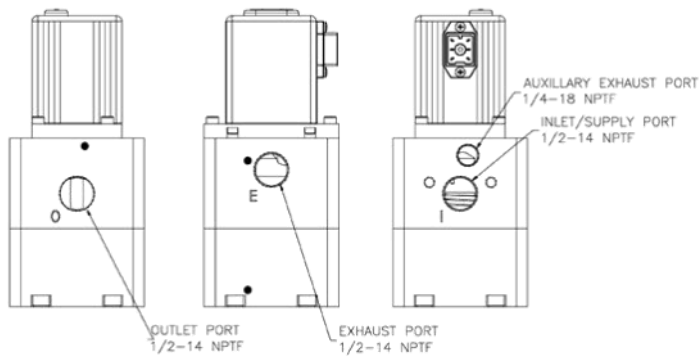

FIGURE 1
3. A 1/4" plug is supplied with the valve. It can be used to plug the "alternate exhaust port" if the exhaust media should be captured or when the valve is used for vacuum or vacuum through positive pressure control. See Figure 1 for port location.
1. Connect supply pressure to the “I” inlet port (Figure 1) not to exceed the rated supply pressure. (See TABLE 1)
2. Connect the outlet “O” port (Figure 1) to the device being controlled.
1. Connect vacuum supply to the “E” exhaust port (Figure 1). The auxiliary exhaust port must be plugged with the 1/4” NPT pipe plug provided to prevent atmospheric air from leaking in to the vacuum supply.
2. Connect supply pressure to the “I” inlet port (figure 1) not to exceed the rated supply pressure. (See TABLE 1). **Positive supply pressure is required on vacuum and vacuum through positive pressure QB4 units.** (Call Factory with Questions)
3. Connect the outlet “O” port (Figure 1) to the device being controlled.